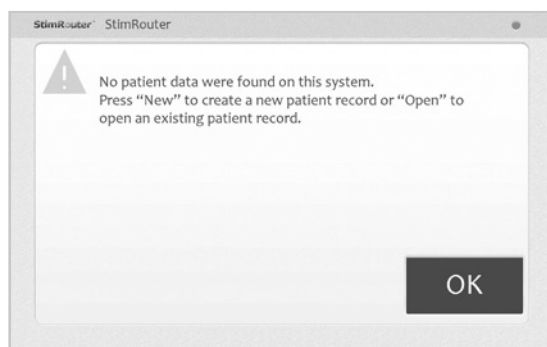

Figure 9-1: Unassigned system detected
3. If the EPT and Patient Programmer are unassigned, then the software should automatically prompt that no patient data was found on the system. Press the "OK" button. See Figure 9-1.
3. If the EPT and Patient Programmer are unassigned, then the software should automatically prompt that no patient data was found on the system. Press "OK". See Figure 9-1.